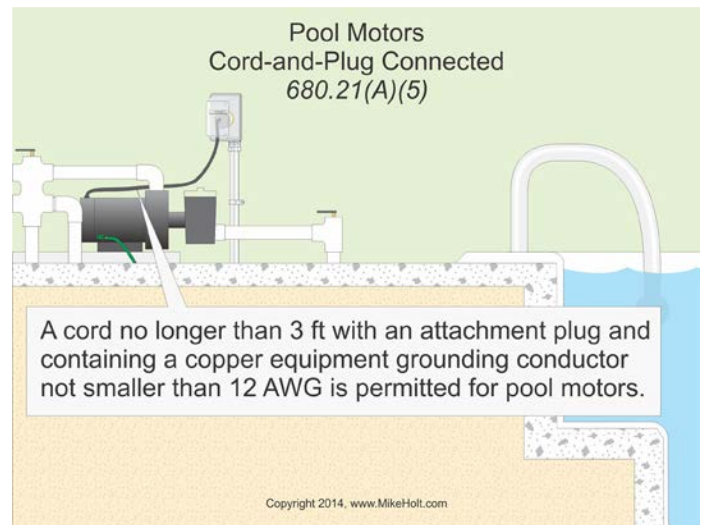

Figure 680-20
(5) Cord-and-Plug Connections. Cords are permitted if the length doesn't exceed 3 ft and it contains a copper equipment grounding conductor, sized in accordance with 250.122, based on the rating of the overcurrent device, but not smaller than 12 AWG. Figure 680-20